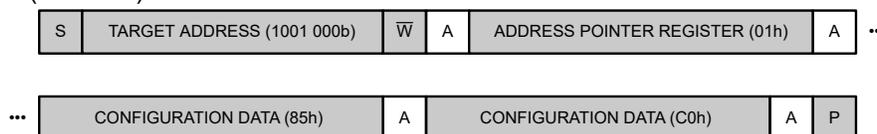
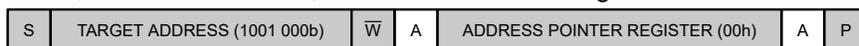

Figure 9-5. Write the Configuration Register
Figure 9-7. Read the Conversion Register
- Then, as shown in Figure 9-7, read the Conversion register.
To save time, a new conversion can also be started (step 4) before reading the conversion result (step 3). Figure 9-8 lists a legend for Figure 9-5 to Figure 9-7.